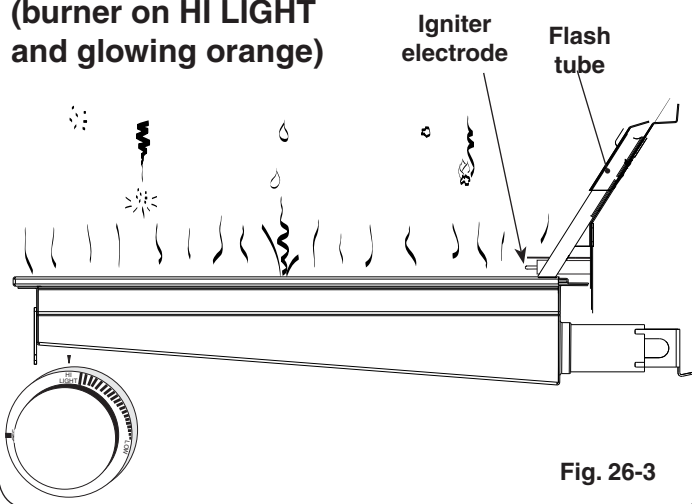

Fig. 26-3
- **DO NOT** place food on the cooking grid until the IR burner glows orange (Fig. 26-3). Drippings are heated and evaporate instead of sticking to and impairing burner function.